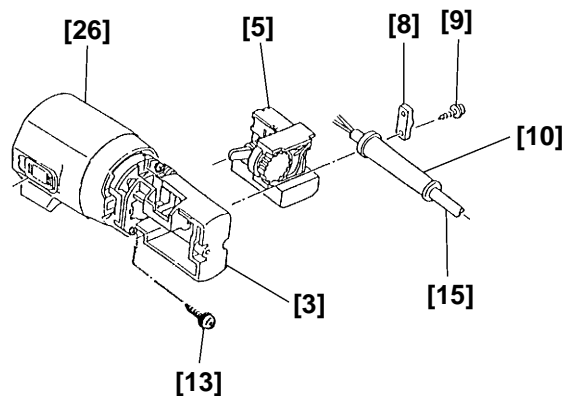

Fig. 11
(11) Removal of Wiring Block (B) Ass'y [5] (Fig.11)
(12) Removal of Wiring Block (A) [3] (Fig. 11)